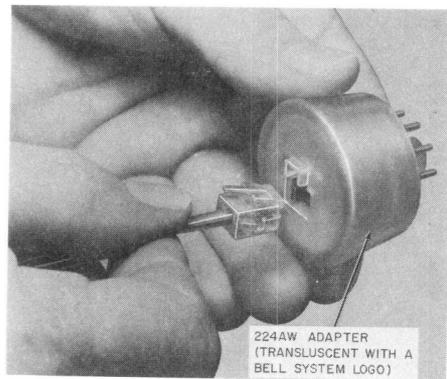

Fig. 3—224AW Adapter
2.03 USOC RJA3X: Used to adapt a modular telephone to an existing 12-pin jack, such as a 541A or 551A, to a 6-pin modular jack (Fig. 6). A 224AW adapter (Fig. 3) is plugged into the 12-pin jack, and the modular plug on the telephone company- or customer-provided equipment plugs into the adapter. Tip and ring are always connected through to the CPE. A and A1 or other leads will appear in the adapter if wired into the existing jack. Adapter is provided by either the telephone company or the customer. Pins 1 and 6 are reserved for Telco use.